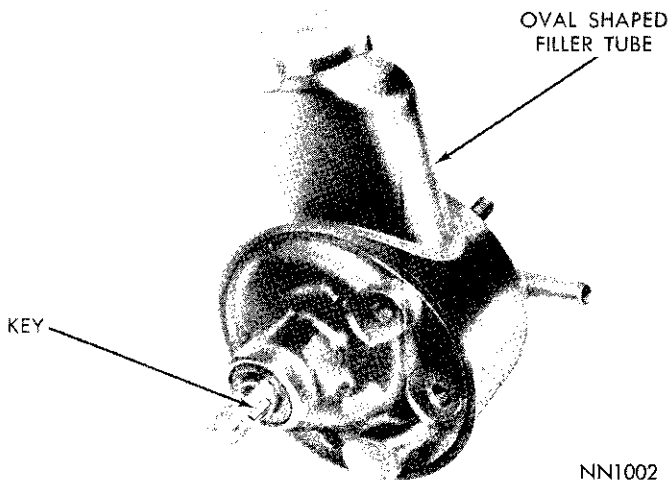

Fig. 1— .94 Pump
(58) Install valve body on housing making sure valve pivot lever enters hole in valve spool (Fig. 1). Be sure "O" ring seals are in place. Tighten valve mounting screws to 7 foot-pounds.
(59) Install new gear shaft seal followed by seal back-up washer and snap ring and a new grease retainer as outlined under "Gear Shaft Oil Seal Replacement."
The .94 pump can be identified by the long oval shape of the filler neck and a drive pulley secured to the drive shaft with a large nut. (Fig. 1). Rectangular pumping vanes carried by a shaft driven rotor, move the fluid from the intake to the pressure cavities of the cam ring. As the rotor begins to rotate, centrifugal force throws the vanes against the inside surface of the cam ring to pick up residual oil which is forced into the high pressure area. As more oil is picked up by the vanes, oil is forced into the cavities of the thrust plate, through two cross-over holes in the cam ring and pressure plate which empty into the high pressure area between the pressure plate and the housing end plate.